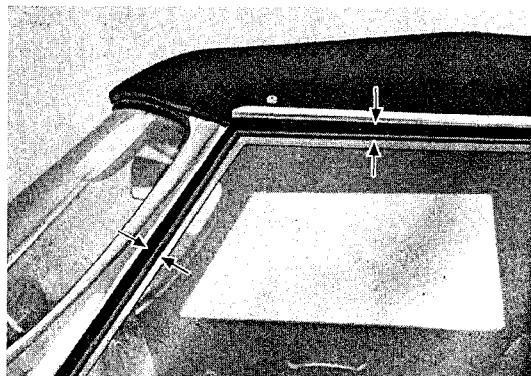

Fig. 84
- Check the angle of the windshield post with respect to the door window and the top as shown in Fig. 84. The correct space is approx. 15 cm ($\frac{5}{8}$ in.) which can be adjusted by placing shims under the windshield post as required.